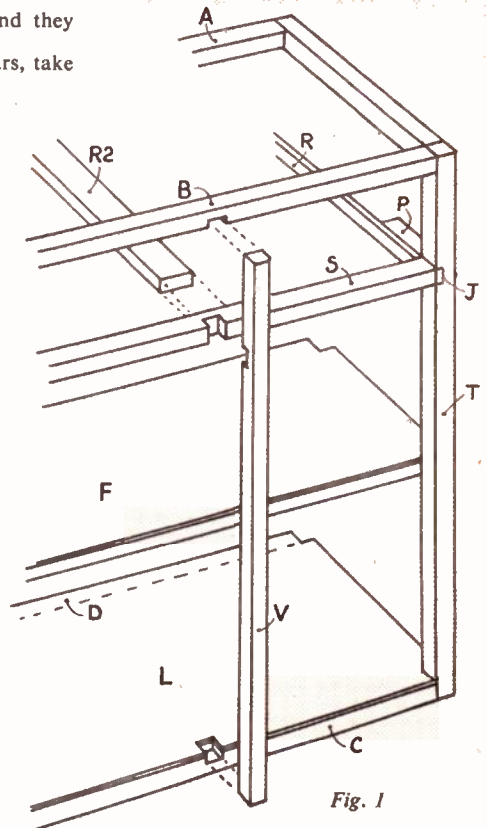

Fig. 1
(A), (B), (C), (D) in Fig. 1, and they join the sides together.
Halfway along two of the spars, take out a shallow trench 1in. wide and $\frac{1}{2}$ in. deep. These are to house the ends of the vertical bar dividing the front of the cabinet. See (V), Fig. 1.
On the inside of the front strip of each side, take out a trench 1in. long and $\frac{1}{2}$ in. deep. (J, Fig. 1 and 2). This is to house the cross spar (S). It should be 7 $\frac{1}{2}$ ins. from the top of the side.
While we are dealing with this level, we can saw off the centre runner for the drawers (R2, Fig. 1). This should be 2ins. by 1in. (or $\frac{1}{2}$ in.) and 15ins. long.
Next, prepare the cupboard shelf. This is (F) in Fig. 1. First saw out a rectangle of hardboard or plywood 26ins. wide by 15ins. from back to front. Glue and nail stripwood along all the edges underneath. $\frac{1}{2}$ in. or 1in. section will do. Then saw out of the back corners 1in. by 1in. pieces, so that the shelf can fit round the spars at the side backs.